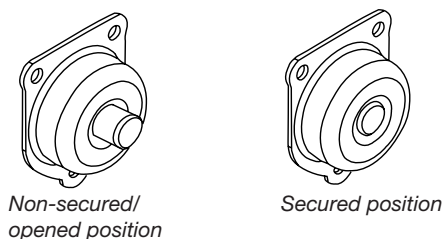

Figure 7
- The mechanism is equipped with an indicator/locking device, check its function in both locked and unlocked positions. See figure 7.